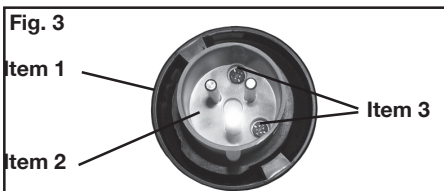
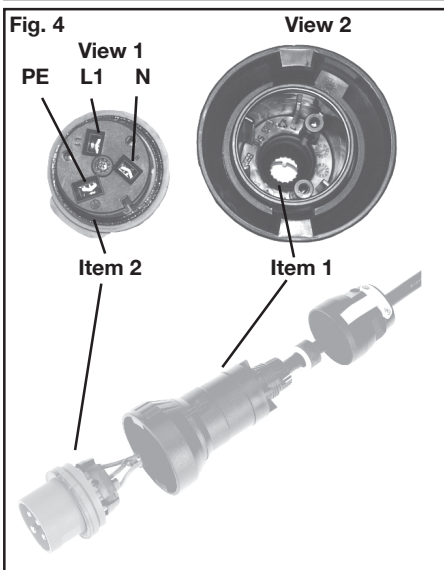

Fig. 3
Fig. 4
The plug insert (item 2, fig. 4) is removed from the pin bushing (item 1, fig. 4), after the fastening screws (item 3, fig. 3) have been unscrewed. Thereafter, the plug insert can be connected to the connections of the plug pins (see view 1, fig. 4). Attention: When the fastening screws (item 3, fig. 3) get lost, they will have to be replaced by similar screws or to be ordered directly from the manufacturer.